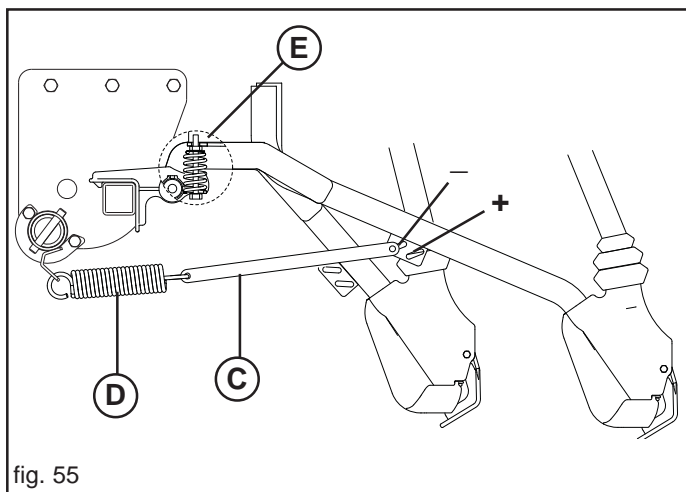

fig. 55
You can further adjust the pressure, separately, changing the position of the tie-rod (C, Fig. 55).
With suffolk coulters only a spring (det. E, Fig. 55) is supplied, as an accessory, to reset the weight of each individual spring element (D) when the spring is fully unloaded. Shallow seeding is possible in this condition.